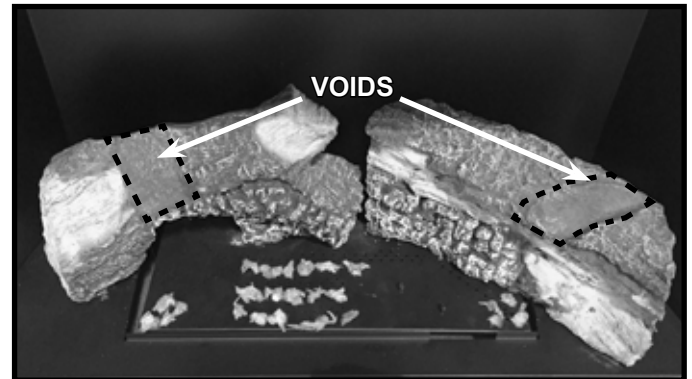
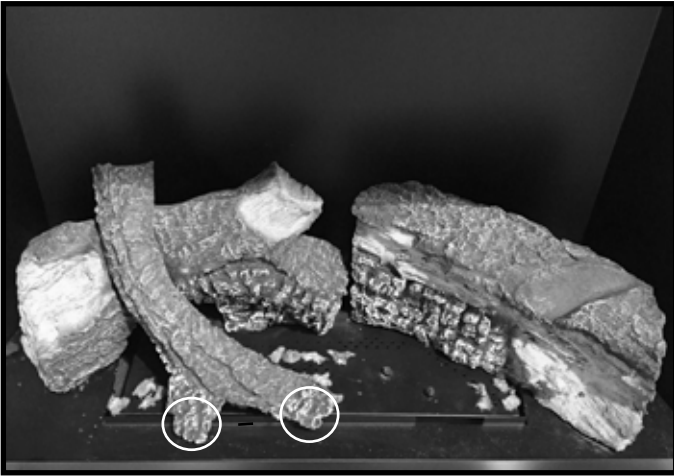
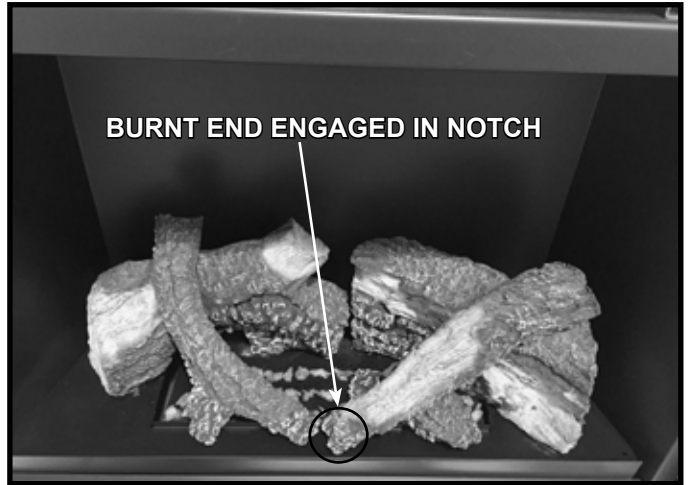

Figure 6. Glowing Embers® Installed
Figure 7. Install Top Left Log
Figure 9. Top Right Log Installed - Log Set Complete
- Remove top left log from packaging. Place the log into the void on the rear left log. The void is highlighted in Figure 6. The bottom two points of the log will rest on the base pan. See Figure 7.
- Remove top right log from packaging. There is a void located in the rear right log which “cradles” the top right log. The void is highlighted in Figure 6. The burnt end of the log will rest on the center base pan. See Figure 9.